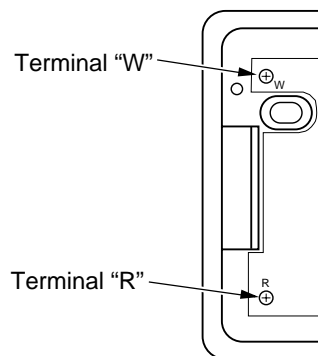

Figure 43 - Thermostat Base Terminals “W” and “R”
6. Connect one bare wire end to each terminal (“W” and “R”) of the thermostat base (see Figure 43).